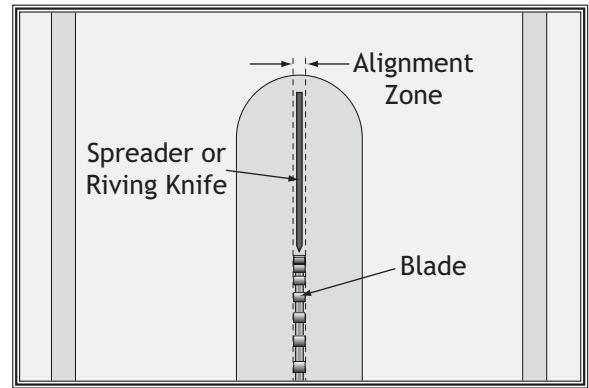

Figure 32. Spreader/riving knife alignment zone.
5. Place a straightedge against the blade and the spreader. When properly aligned, the spreader/riving knife will be parallel with the blade and in the "Alignment Zone," shown in **Figure 32**.